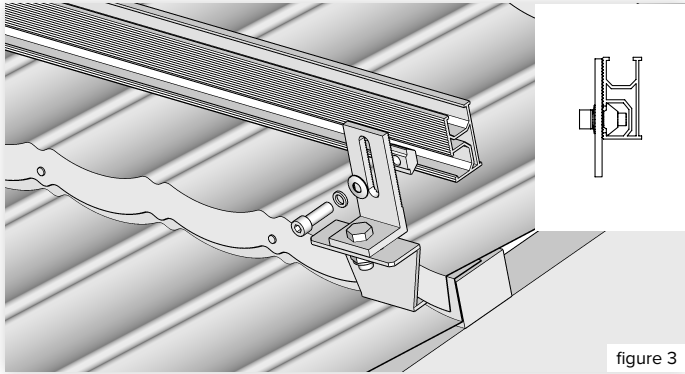

figure 3
8. Fit the top and bottom rails using fixings and Allen key provided, as per figure 3.